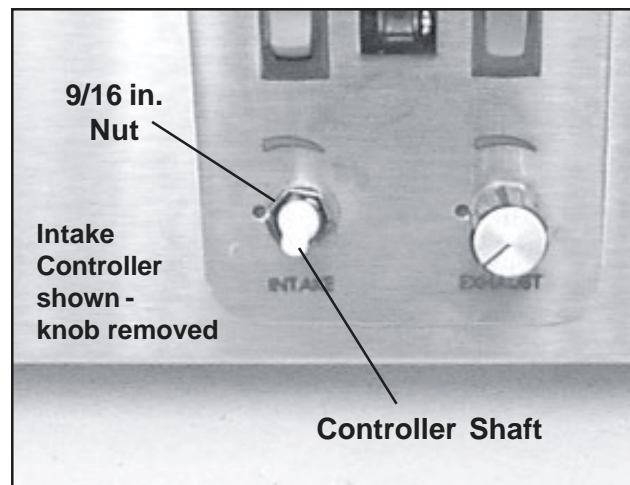

Figure 64. Removing a Blower Speed Controller
6. On the front of the panel, use a 9/16 in. wrench to unscrew the nut (Figure 64) on the controller shaft.